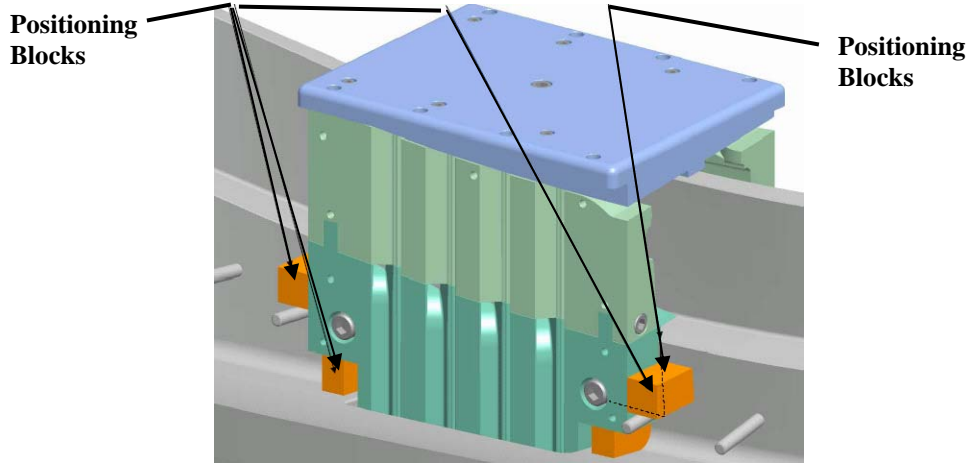

Figure 17- Install Lead Positioning Blocks
- 6.19.1.4 Accurately mark the position of the sides and bottom edges of the lower lead blocks. Either mark the casting, or attach temporary positioning blocks to the casting. [**Figure 17- Install Lead Positioning Blocks**]